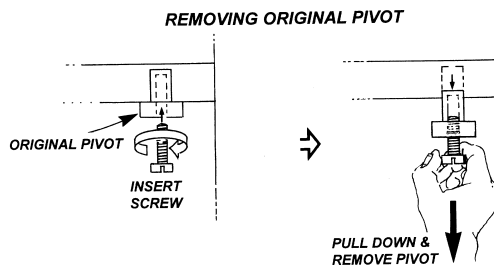

Fig 2
2. Use the Jig Screw to remove the original pivot by inserting the screw into the pivot hole and pulling down. See Fig 2